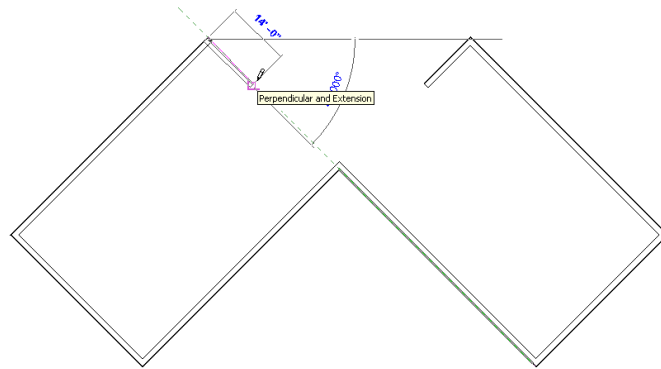

Figure 2-41 Sketching the inclined exterior walls using the **Chain** option
11. In the same manner, create the next two wall segments of 60'0" and 14'0" length to complete the inclined wall exterior profile, as given in the sketch plan and shown in Figure 2-41.